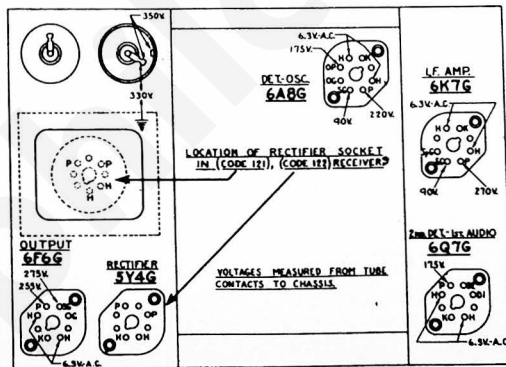
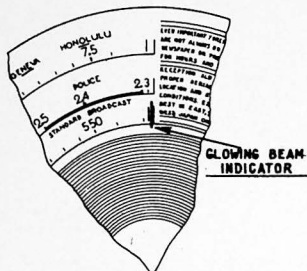
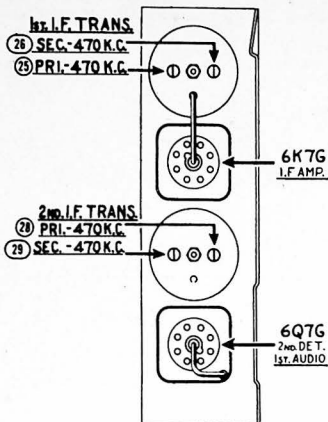

Fig 1—Tube Socket Voltages
Fig. 2—Dial Calibration
Fig. 3—Locations of I.F. Compensators Top of Chassis
Fig. 1 shows the Voltage measurements taken from the bottom of the sockets at each contact. In Fig. 2, the correct position of the dial indicator, for proper adjustment of the compensators is shown. Fig. 3, and 4, are the location of the I. F. and R. F. compensators respectively.
The Model 37-610 code 121 receiver is used in cabinets type B and J. In code 122 receiver, Type T cabinet is used. This receiver differs from code 121, only in the rectifier socket mounting and power transformer. The socket is placed adjacent to the 6F6G output tube and power transformer (Part No. 32-7626) is used. Location of rectifier socket is shown in Figs. 1 and 6.
Philco Fibre Wrench No. 3164 and Fibre Handle Screw-driver No. 27-7059 complete the necessary equipment for these adjustments. The locations of the various compensators are shown in Figs. 3 and 4.
**DIAL ADJUSTMENT**—In order to adjust this receiver correctly, the dial must be aligned to track properly with the tuning condenser. To do this, rotate the tuning condenser control to the extreme counter-clockwise position (maximum capacity). Loosen the set screw of dial hub, then turn dial until the glowing indicator is centered between the index lines of dial scale (see Fig. 2). Now tighten the dial hub set screw in this position.